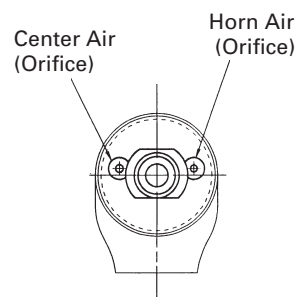

Figure 1 (Facing front of gun with tip removed)
Procedure: Attach air cap test kit and adjust pressure at inlet to 50 psi (3.5 bar) with trigger depressed. Air cap test kit gauge should read 10 psi + 0 -1 psi (.7 bar + 0 - .1 bar). If pressure varies more than 10%, clean orifices using the following procedures. Remove tip (5), baffle (air distributor) (6) and air valve (18) and blow air back through the orifice to clear blockage. Reassemble. See Figure 1.